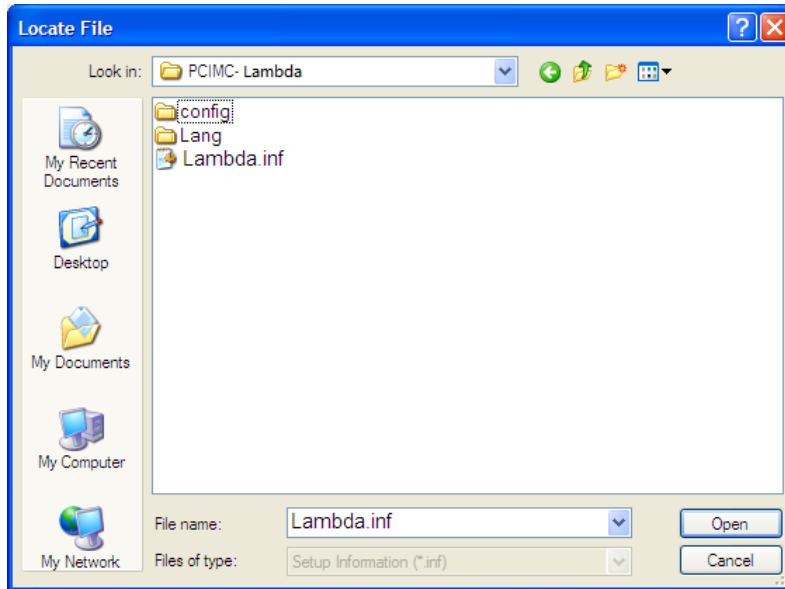

Fig. 1-12 Select the hardware driver
- 6) In “Locate File” dialog box as Fig. 1-12, select the target hardware drive in the list, Choose the target file “Lambda.inf” under directory “C:\Program Files\Naiky\PCIMC-Lambda”, taking PM85A as an example.